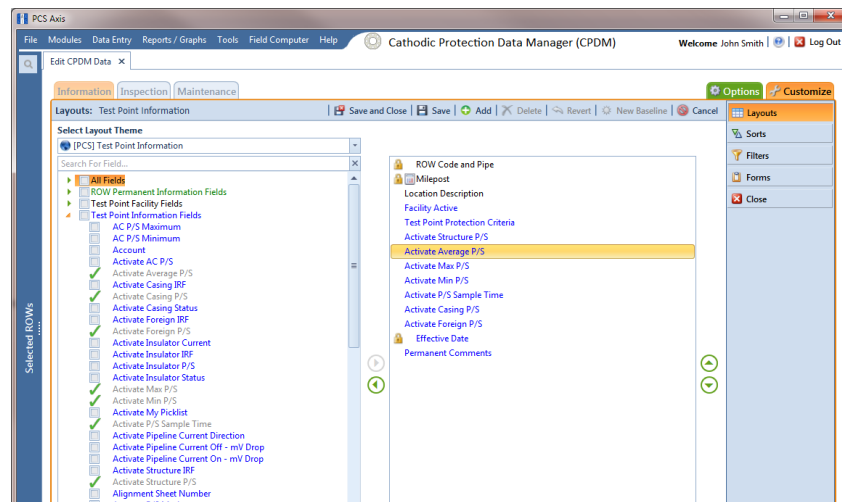

Figure 8-15. Layouts
- 4 Click the **Customize** tab  to open the *Layouts* page (Figure 8-15).